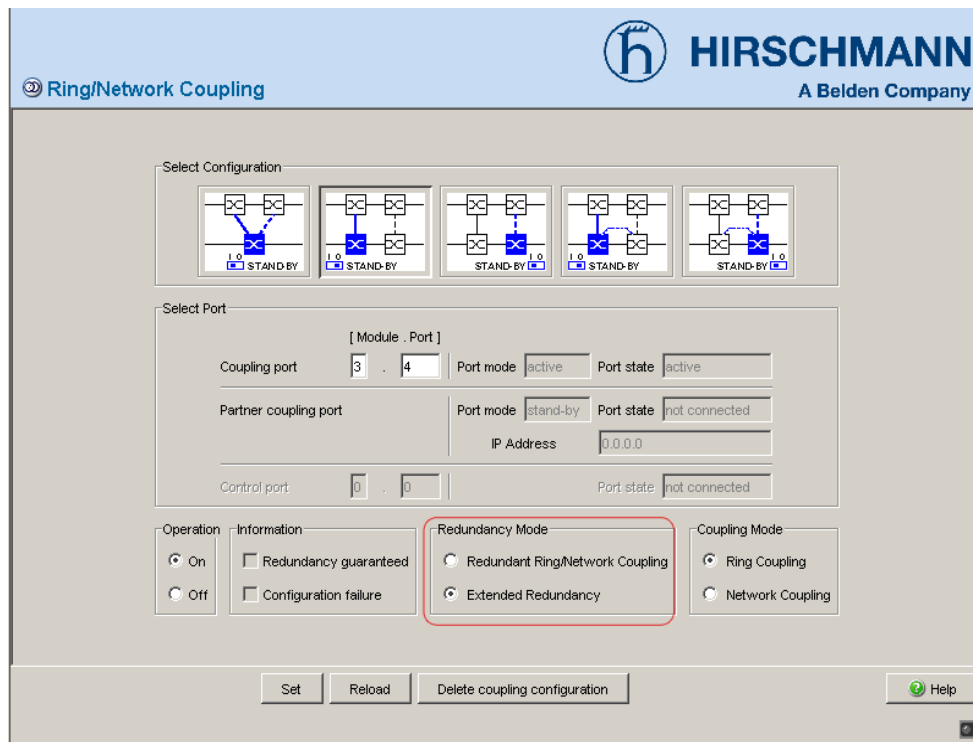

Figure 17: Selecting the redundancy mode
- ☐ In the “Redundancy Mode” frame, select (see fig. 17)